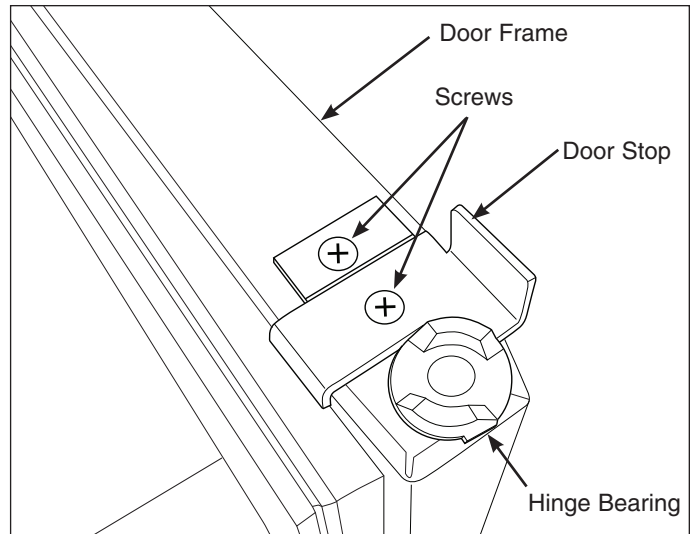

Figure 6-5. Door Stop Removal
2. Extract the two screws securing the door stop to the bottom of the door assembly. (See Figure 6-5) Door stop assembly is now free.